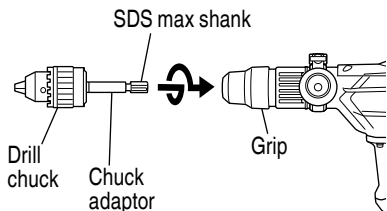

Fig. 19
- (2) Attaching chuck adaptor to drill chuck (Fig. 19)